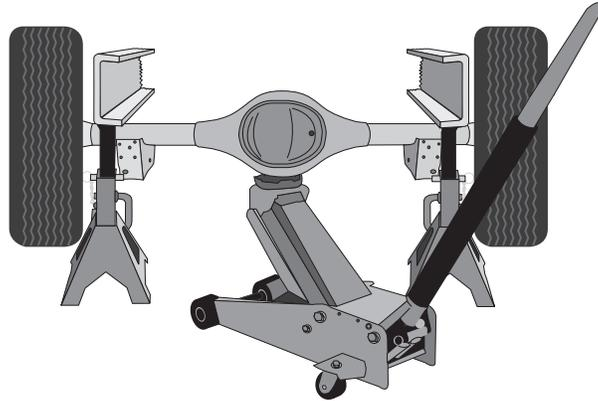

fig. 2
1. Raise the vehicle and support it, using safety stands or equivalent, so that the axle can be safely dropped away from the frame (Fig. 2). This will need to be done in order for the air spring assembly to be positioned between the axle and frame.